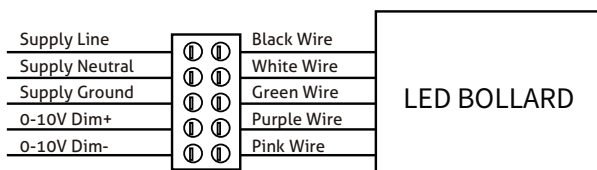

Fig 8
8. Connect the wires, then tighten the terminal block with a flat-head screwdriver, and check to make sure all wires are in good connection **Fig. 8**